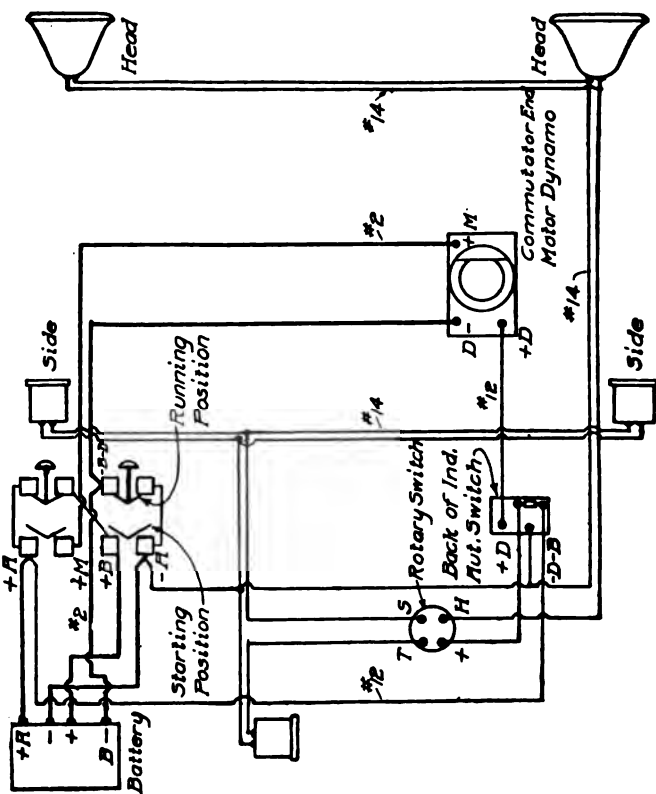

FIG. 325. Wiring Diagram of Splitdorf-Apico Twelve in Six-Volt Single-Unit Two-Wire System
**Wiring Diagram.** As the lamps are run on 6 volts, the 6-cell battery is connected as two units of 3 cells each for lighting, and these units are connected in series-parallel for charging, as the dynamotor produces current at 6 volts. The remaining details of the connections will be clear in the wiring diagram, Fig. 325.